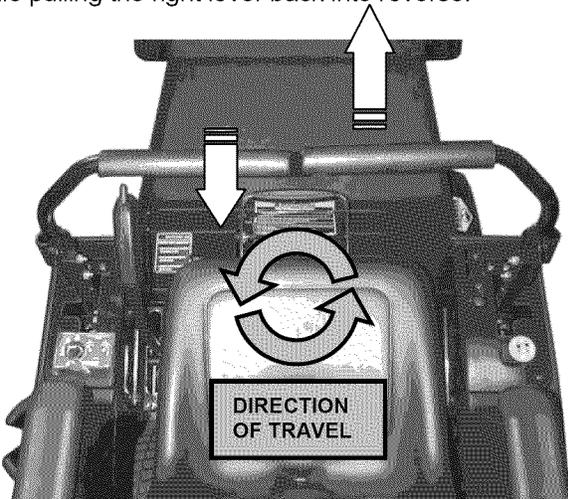

FIGURE 2.7
1. To Zero-turn left, push the right lever forward while pulling the left lever back into reverse. See Figure 2.7.